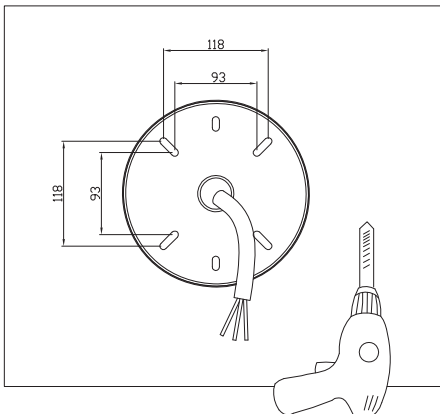

Figure 7
Step 4: Drill holes on the wall according to the locating plate (Figure 7).